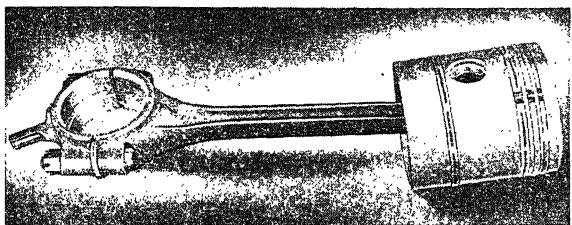

Fig. 51. Hudson and Terraplane (1935)
**Four-Ring Piston.** The Hudson piston, Fig. 51, is designed to secure better oil seal in the piston, prevent carbonizing the rings, insure longer ring life and greater economy of oil, especially after the
The connecting rod shown in Fig. 51 is of the splash lubricated type and is equipped with a large drilled oil dipper and an oil groove in the lower half of the bearing. It will also be noted that this particular rod is fitted with shims for adjusting.